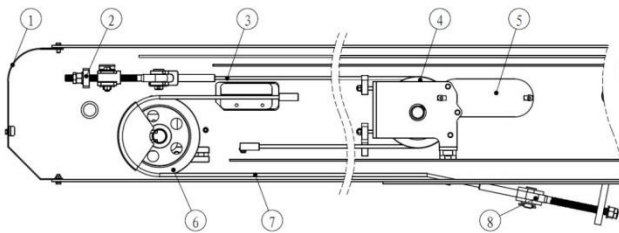

Fig. 1-9 Assembly Diagram of Telescopic System
- 3) As shown in Fig. 1-9, open the arm rod rear enclosure plate 1, check whether the extension wire rope counterweight 2 is skewed to one side, and check whether the retraction wire rope counterweight 8 is skewed to one side. If there is skewing, the wire rope is loose.